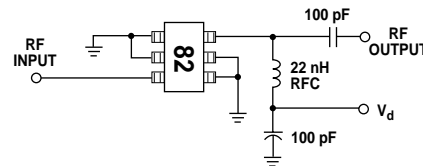
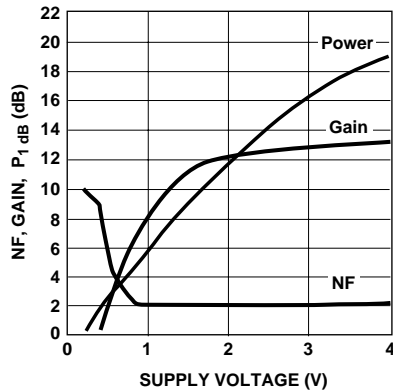

Figure 10. Test Circuit.
Figure 19. Gain, Noise Figure, and Output Power vs. Supply Voltage.
1. Guaranteed specifications are 100% tested in the circuit in Figure 10 in the Applications Information section.
The circuit shown in Figure 10 is used for 100% RF testing of Gain and Noise Figure. The test circuit is merely a  $50\ \Omega$  input/output PC board with a RFC at the output to apply DC bias to the device under test. Tests in this circuit are used to guarantee the  $NF_{\text{test}}$  and  $G_{\text{test}}$  parameters shown in the table of Electrical Specifications.
mental response. This data was measured in the test circuit in Figure 10.
While the MGA-82563 is designed primarily for use in +3 volt applications, the internal bias regulation circuitry allows it to be operated with power supply voltages from +1.5 to +4 volts. Performance of Gain, Noise Figure, and Output Power over a wide range of bias voltage is shown in Figure 19. (This data was measured in the test circuit in Figure 10.) As can be seen, the gain and NF are fairly flat, but an increase in output power is possible by using higher voltages. The use of +4 volts increases the  $P_{1dB}$  by over 2 dBm.